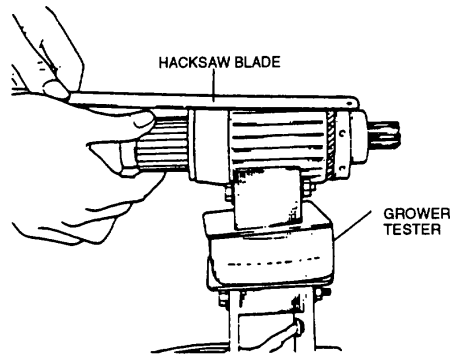

FIGURE 3-33. Growler Test
- a. Using a growler tester, place armature on it and hold a hack saw blade against armature core while slowly rotating armature, refer to FIGURE 3-33. A short circuited armature causes blade to vibrate and be attracted to core. An armature which is short circuited must be replaced.